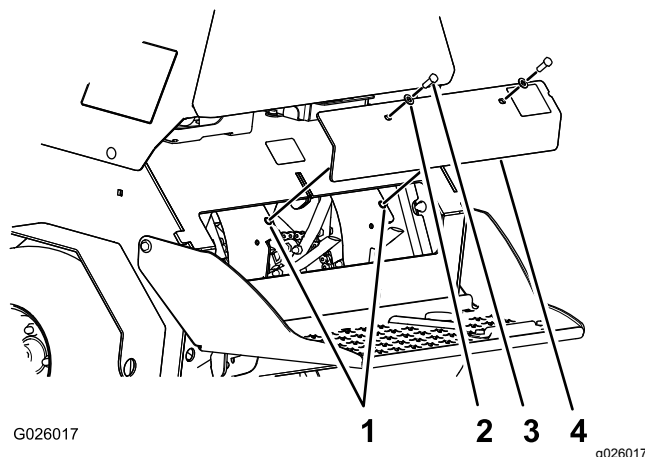

Figure 44
3. Remove the 2 bolts (3/8 x 1 inch) and 2 washers (3/8 inch) that secure the rear-cover panel to the chassis, and remove the panel (Figure 44).
6. Align the holes in the rear-cover panel to the holes in the chassis (Figure 44).
7. Secure the cover panel to the chassis with the 2 bolts and 2 washers (Figure 44) that you removed in step 3, and torque the bolts to 37 to 45 N·m (27 to 33 in-lb)